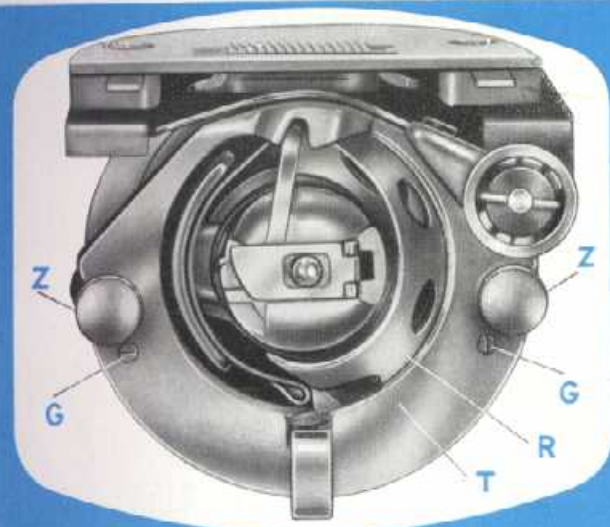

Fig. 26
- Snap out pins «Z» (Fig. 26) by swinging them sideways, and, with left hand, remove race plate «T» by turning it away from the race.